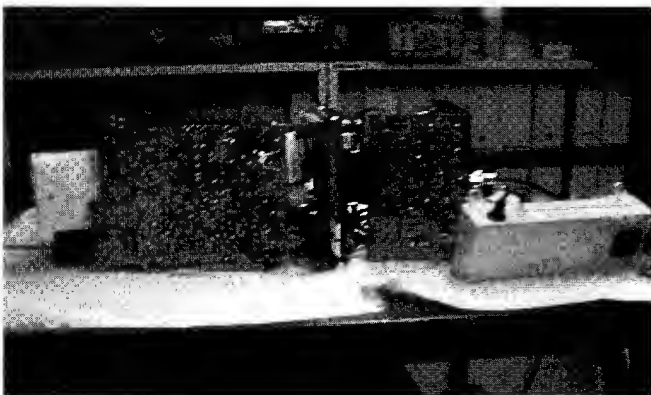

Fig.18
8. Inspect as indicated in Fig. 18.